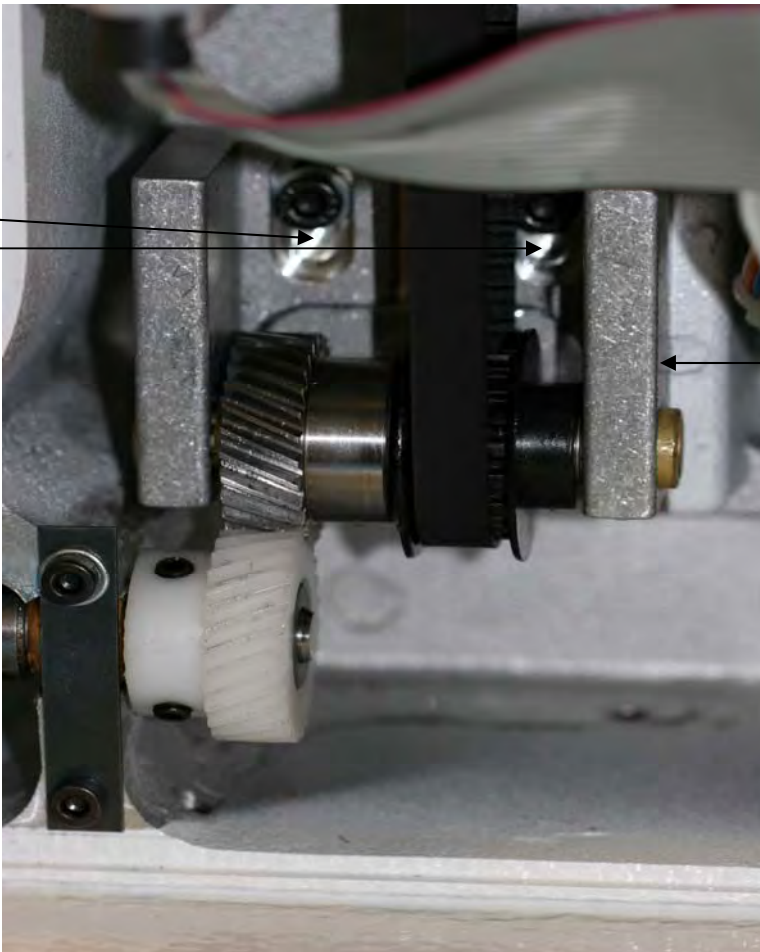

Figure 6.3
- Loosen the two screws in the elongated slots on the transmission housing above the gear. (**4mm allen tool**) (figure 6.3) see left arrows.
*NOTE: the transmission housing is pushed to the right towards the handwheel end of the machine, until flush with the machined edge, while being adjusted.* (figure 6.3) see right arrow.